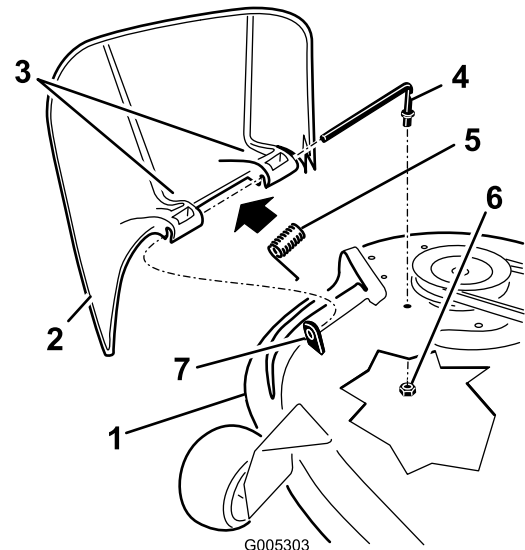

Figure 58
- Locate items shown in Figure 58.
- Remove the nut (3/8 inch) from the rod under the mower (Figure 58).
- Slide the rod out of the short stand-off, spring, and grass deflector (Figure 58). Remove the damaged or worn grass deflector.
- Replace the grass deflector (Figure 58).
- Place the spring on the rod, with end wires down, and between the grass deflector brackets. Slide rod through second grass deflector bracket (Figure 58).
- Insert rod at front of grass deflector into short stand-off on deck. Secure rear end of rod into the mower with a nut (3/8 inch) (Figure 58).